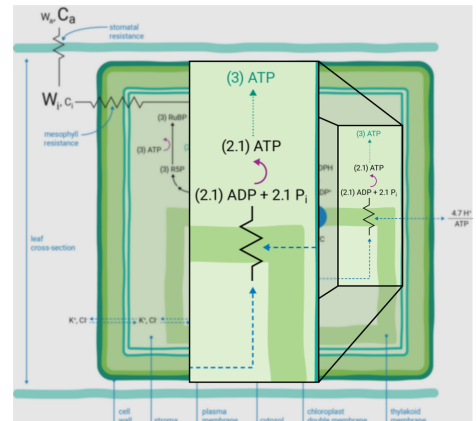

Figure 4. Protons encounter resistance as they move from the lumen to the stroma of the chloroplast.
If the Q-cycle at the cytochrome *b₆f* complex operates constitutively (9, 17 - 19), oxidation of two H_2O molecules would result in the net accumulation of twelve protons in the thylakoid lumen, thereby contributing to the pmf (8). The resulting amount of ATP generated as these twelve protons move down their electrochemical gradient through the chloroplast ATP synthase is determined by the enzyme's H^+/ATP ratio (20). The ATP synthase imposes a resistance to proton efflux from the lumen to the stroma of the chloroplast (Figure 4) (1). The H^+/ATP ratio of the ATP synthase is contested (21), but if the ratio is four, movement of twelve